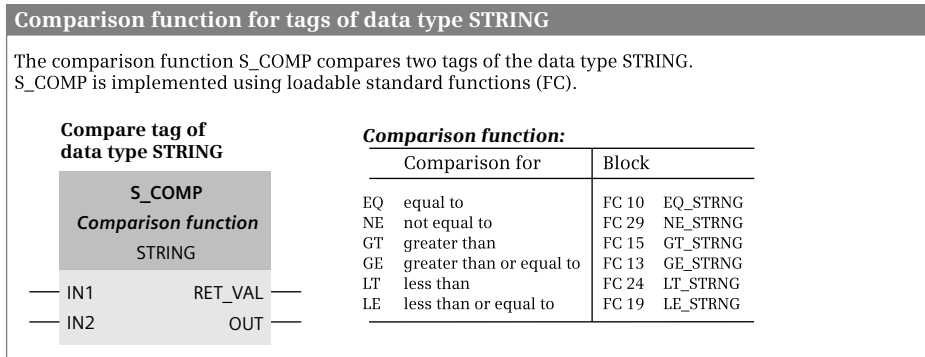

Fig. 13.7 Representation of comparison function for strings
S_COMP compares two tags with data type STRING. The graphic representation is shown in Fig. 13.7. The comparison function S_COMP is implemented with loadable standard functions (FC), which are represented as an EN/ENO box in LAD and FBD and as a block call in STL and SCL with the comparison result as a function value.